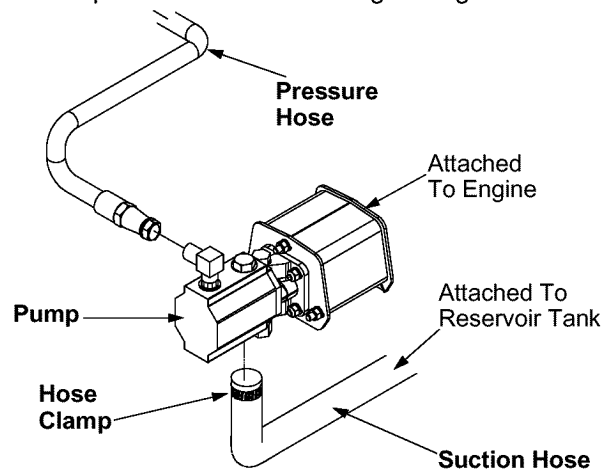

Figure 9
- The suction hose is attached to the reservoir tank, beneath the engine mounting bracket. Loosen the hose clamp on the free end of the hose. Remove any protective insert from the end of the hose. See Figure 9.
- Remove the protective cap from the fitting on the bottom of the pump (some oil may flow from pump). Attach the end of the suction hose to the fitting on the bottom of the pump. See Figure 9. Place hose clamp at the base of the fitting and tighten securely.
The pressure hose is attached to the control valve. Route the hose between the beam and the tongue. Secure the pressure hose to the adapter on top of the pump. See Figure 9.